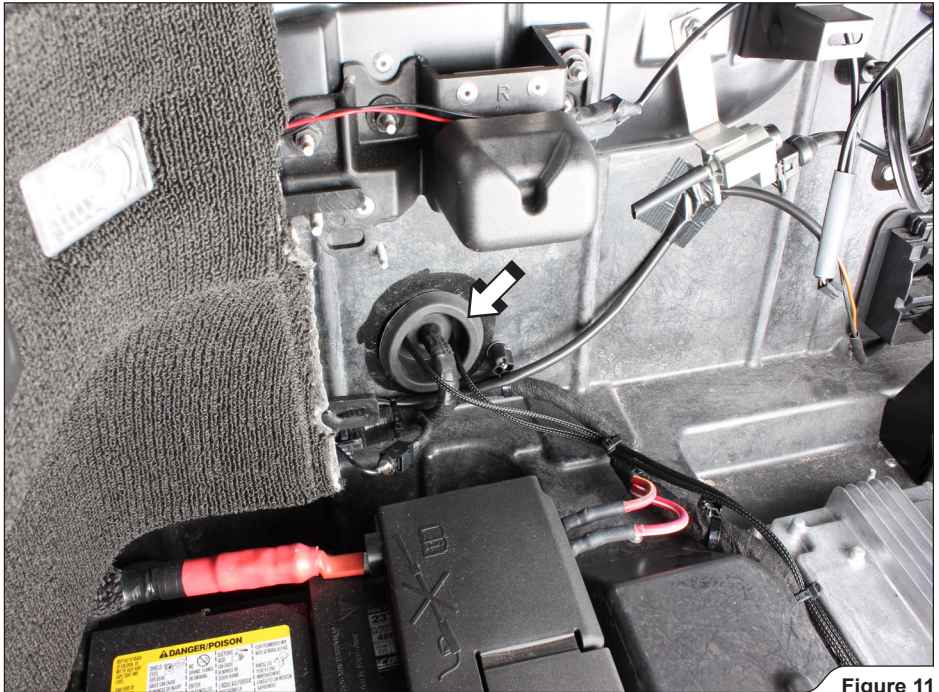

Figure 11
10. Carefully puncture/cut the marked rubber seal and lead the two actuators' harnesses through, as shown (Figure 11, 12).